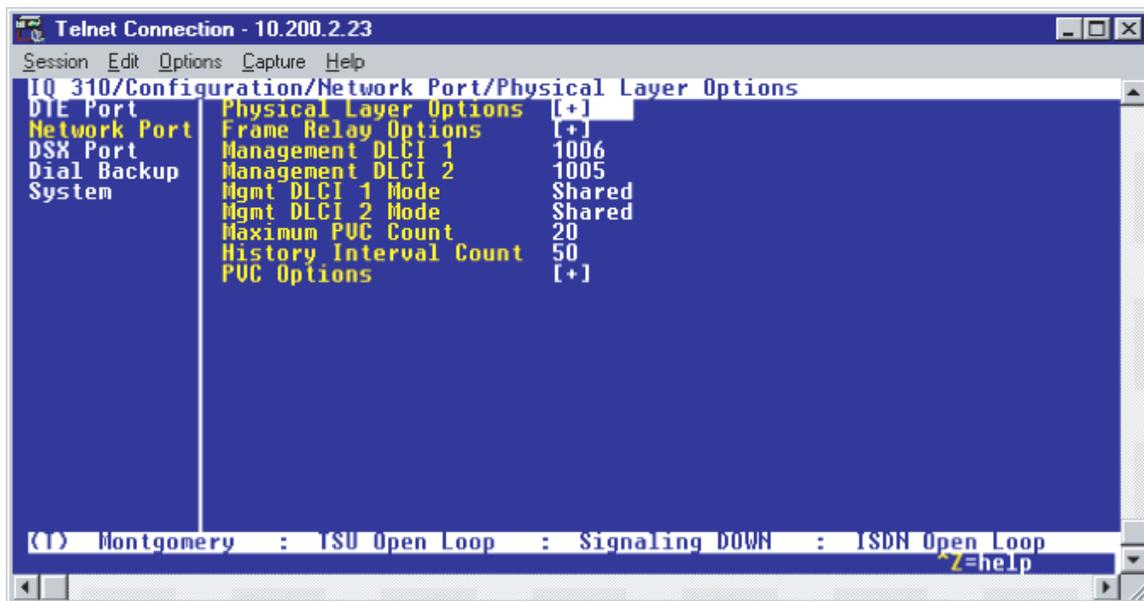

Figure 44. Configure Network Port Menu
2. Use the up arrow key to select **NETWORK PORT**; press **<ENTER>**. The screen shown in Figure 44 appears.